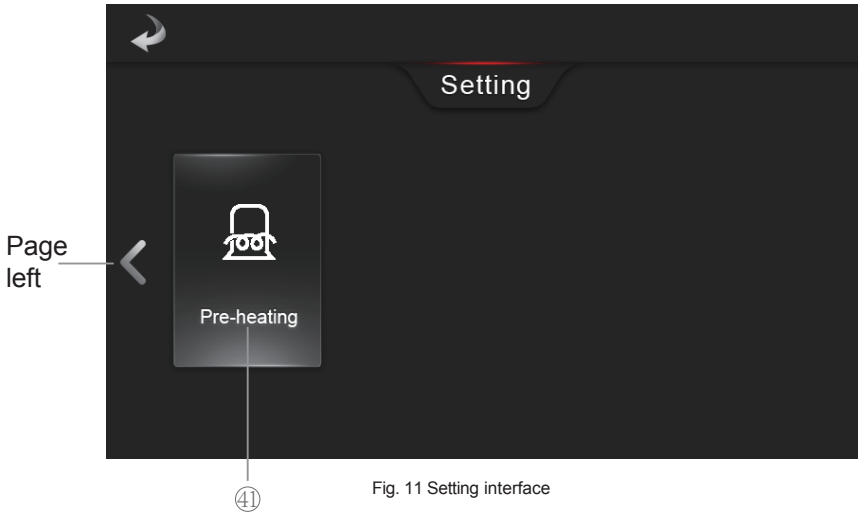

Fig. 11 Setting interface
In the Setting interface (Fig.11), while the button ④ displays “OFF Pre-heating” and “The image shows a warning dialog box on a dark background. At the top, the word "Warning" is displayed in white. Below it, there is a red warning triangle icon with a white exclamation mark. To the right of the icon, the text "Pre-heating function is only available when the unit is switched off." is written in red. In the top-left corner of the dialog box, there is a white curved arrow pointing to the left, indicating a back or cancel action.